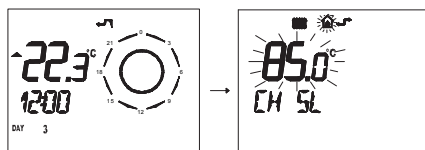

Fig. 7.31
- Press button **P** for more than 3 seconds to enter in **INFO** mode (Fig. 7.31).